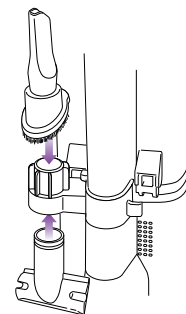

Fig. 4
- 5** Store your on-board tools onto the accessory holder located on the back of the unit. (Fig. 4)